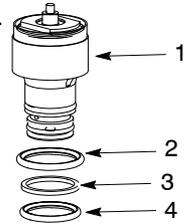

Figure 10: Piston/Cartridge Assembly and Needle Assembly
- c. See Figure 10. Remove o-rings and back-up ring from piston/cartridge assembly.
- b. See Figure 10. Remove o-rings and back-up ring from piston/cartridge assembly.